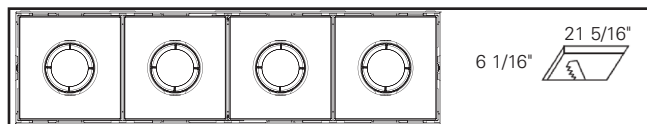

Figure 1.12.
- 4 Light: 21 5/16" X 6 1/16" (Figure 1.12)